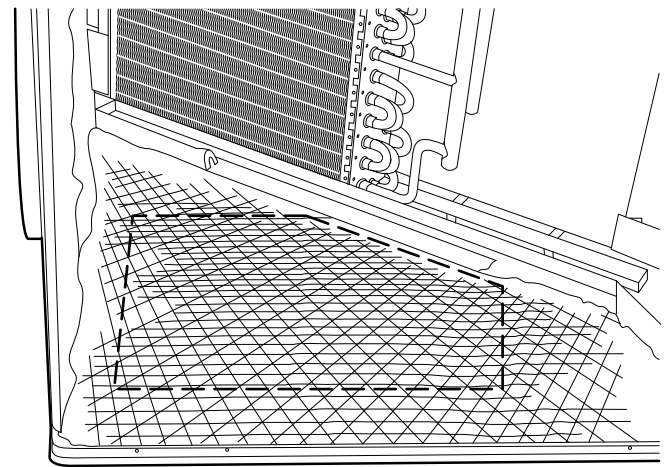

Fig. 16 — Basepan Insulation Over Vertical Duct Opening
3. Locate lances in basepan insulation that are placed over the perimeter of the vertical duct opening cover (Fig. 16).